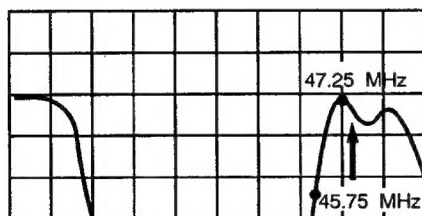

Fig.4
4. Adjust core of L301 to obtain the waveform as in Fig.4.